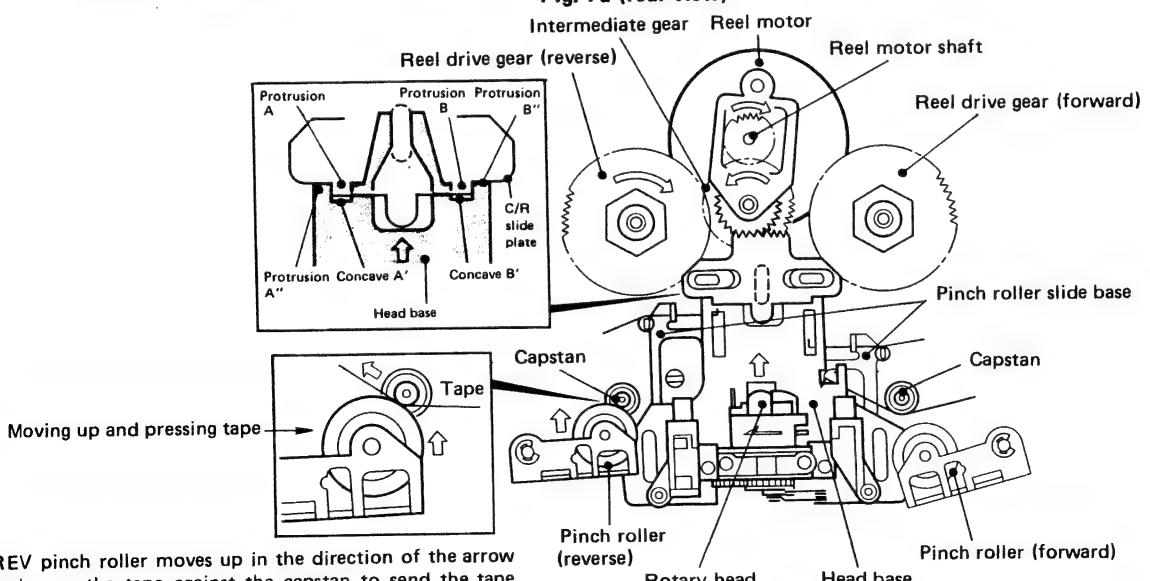

Fig. 7b (surface view)
- b) As the drive catch of the reverse pinch roller slide base (left) moves to the uppermost (play) position, the pinch roller (reverse) comes up in contact with the capstan (Fig. 7b). At this time, the head base slides up in response to the motion of the reverse pinch roller slide base so that the head comes in contact with the tape.